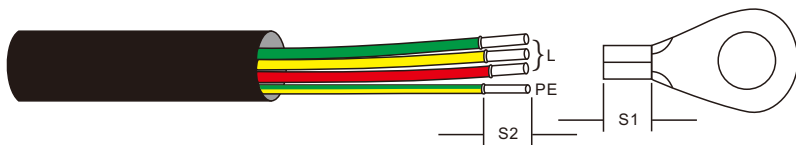

Figure 3.25 Strip AC cable
- 1) Strip the end of AC cable insulating jacket about 11.8 inch then strip the end of each wire. (as shown in figure 3.25)